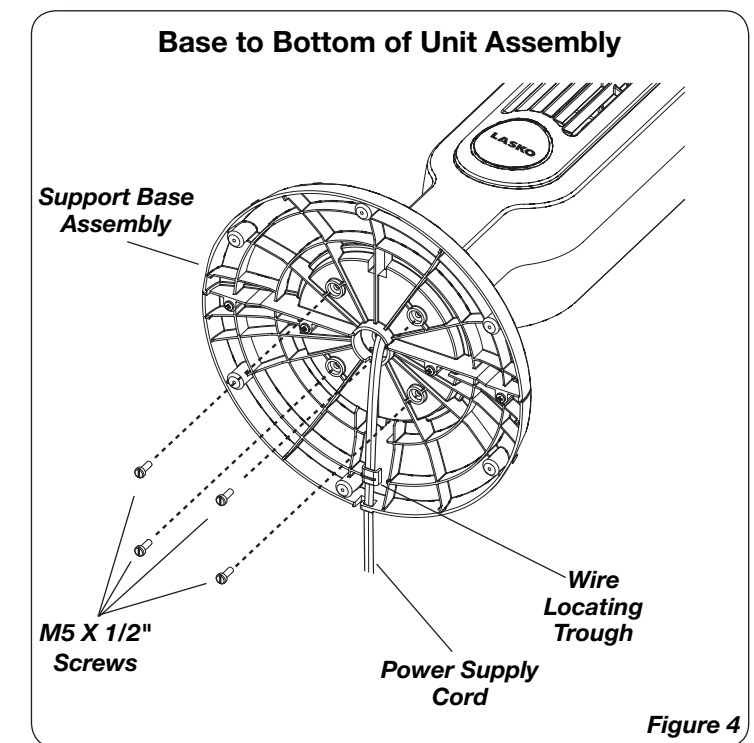

Figure 4
- Secure the **Support Base Assembly** to the bottom of the Fan with (4) 1/2" Long **M5 Screws**. Gently pull any excess slack of the **Power Supply Cord** and place it in the **Wire Locating Trough**. (**Figure 4**)